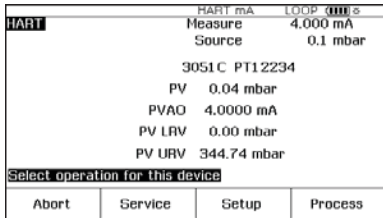

Figure 5.
1. Power on the Fluke 754 Calibrator. Press the red key followed by the **Loop Power** softkey and the 754 will display the basic HART information for the 3051 (Figure 5).
7. Select **Output Trim** and press **ENTER**. The value of the primary variable (PVAO) is in the upper right corner of the display. (Figure 5). This is normally a 4 mA signal. The mA value, as constantly measured by the Fluke 754, is in the center of the display. Press the **Fetch** softkey to load the measured mA value. Press **Send** to send the value to the 3144 to trim the output section for the 4 mA value. Press **Continue** for the 20 mA trim and repeat this step.